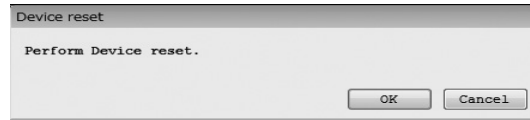

Fig.166
- ① Click "Maintenance (M)" > "Device reset" in the menu.
- ② A window (Fig. 166) will appear.